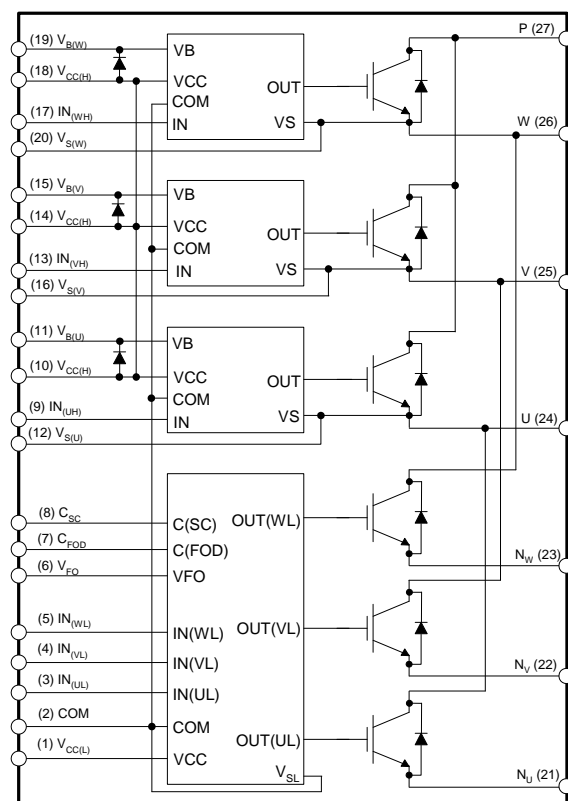

Figure 3. Internal Block Diagram
- 600 V - 15 A IGBT inverter for three-phase DC / AC power conversion (please refer to Figure 3)